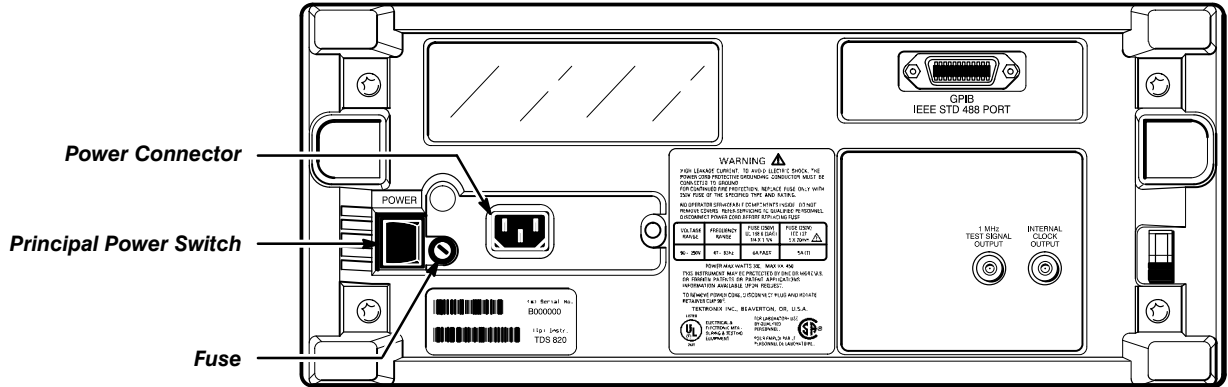

Figure 1-1: Rear Panel Controls Used in Start Up
4. Connect the proper power cord from the rear-panel power connector (Figure 1-1) to the power system.
1. Check that the rear-panel principal power switch is on (Figure 1-1). The principal power switch controls all AC power to the instrument.